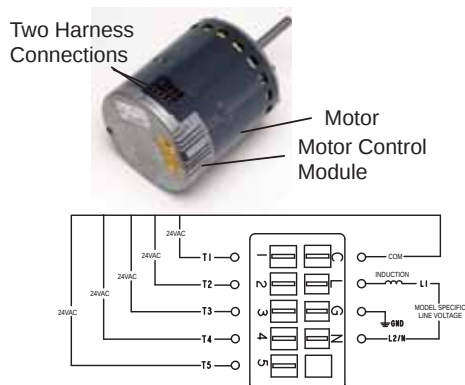

Figure 9. Unplug the Two Harness Connection
- 3 - Unplug the two harnesses from the motor control module. See **Figure 9**.